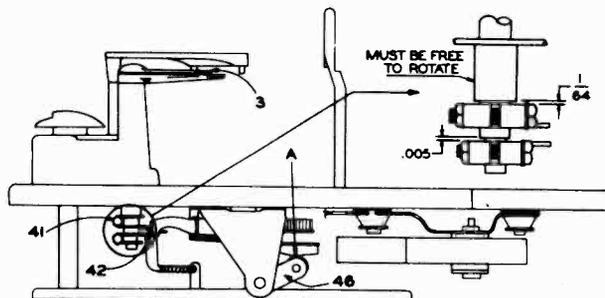
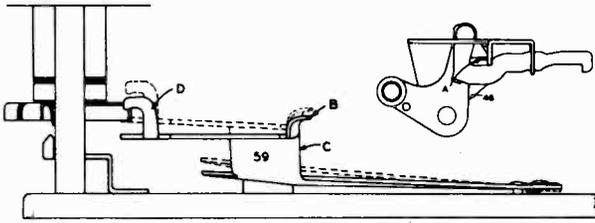

Fig. 5
Fig. 8
1. Turn the Record Shelf (4) to the 12" position.
2. Trip the Reject control and rotate the Turntable clockwise until the push off Blade reaches its farthest forward position. At this point the cam follower will be at the highest point on the Main Cam ("A" of Fig. 5).
3. Loosen the lock bolts of (41) and (42).
5. At the same time, push the Push-off Blade forward as far as possible and push the Push-off Blade and Record Shelf Assembly downward tight against the Housing (6).
6. Position the Record Shelf finger and the Toggle Assembly (41) so the 12" finger of the Push-off
1. Turn the record Shelf (4) to the 12" position.
2. Trip the Reject control and rotate the Turntable until the Push-off Cam Follower reaches the highest point on the Main Cam ("A" of Fig. 5).
3. Loosen the Push-off Blade finger (42) clamp bolt.
4. Push the Push-off Blade forward as far as possible and hold the Push-off Blade and Record Shelf assembly downward tight against the housing (6).
5. Tighten the Push-off Blade finger clamp bolt (42), leaving  $\frac{1}{64}$ " vertical clearance between the shoulder of the Record Shelf shaft and the Push-off Blade finger (42).
As explained above, the weight of records on the spindle prevents the Automatic Lock Lever (59) from dropping. As the Cam Lever and Bracket assembly (46) moves forward to engage the Push-off Blade Actuating Lever (42), Fig. 5, point A of the Cam Lever (46), Fig. 8, should also move forward under point B of the Automatic Shut Off Lock Lever (59) to make certain it does not drop until the last record has dropped to the turntable and the Pickup Arm is in position to play. If point A does not engage point B, the Lock Lever (59) will drop to engage the Pickup Arm Raising Disc (36) and the Pickup Arm will return to the rest position without playing the last record.